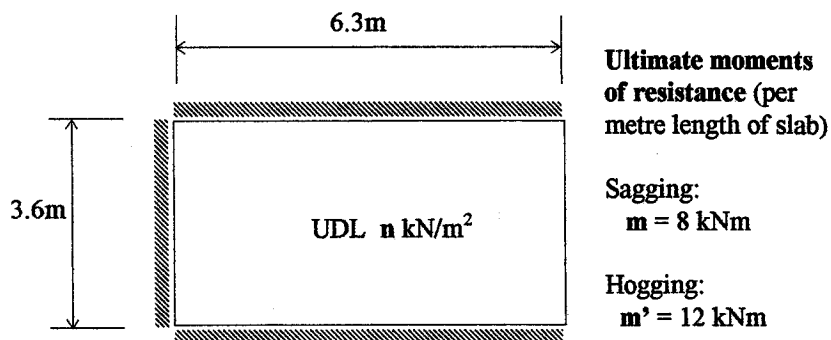

Fig. Q6
- (b) The rectangular slab shown in fig. Q6 is fully fixed on three sides and free along one of the shorter sides. It supports a uniformly distributed load,  $n \text{ kN/m}^2$ , and is isotropically reinforced, with ultimate moments of resistance as given below.